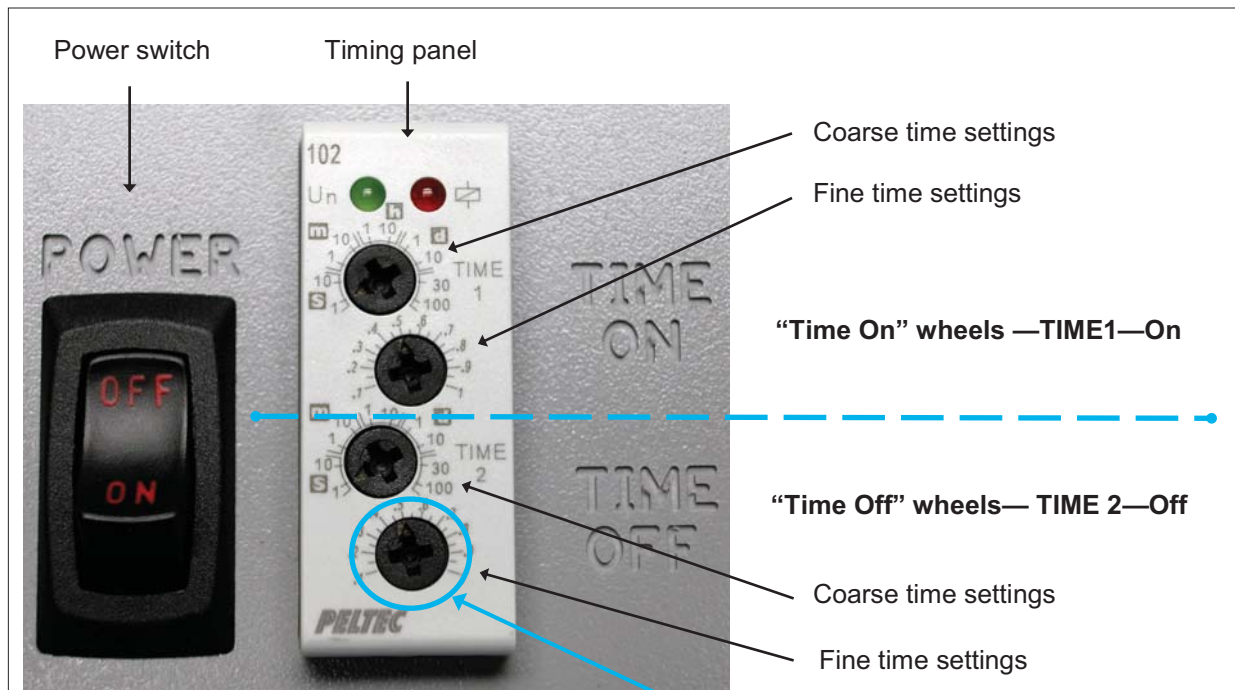

Fig. 23 - Indexing timer controls
The Indexing timer's timing panel consists of two (2) pairs of control wheels that are turned using a small Phillips head screwdriver. These controls allow independent control of both the "On" and Off" times. Each pair of wheels ("Time 1" ON pair and the "Time 2" OFF pair) are shown in Fig 23.